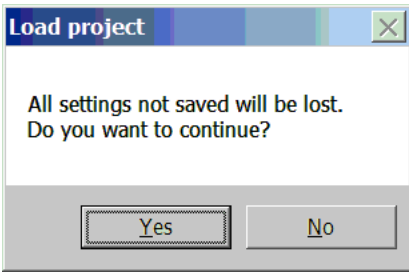

Fig. 17
2. The “Load Project” dialog window will come up, see Fig. 17